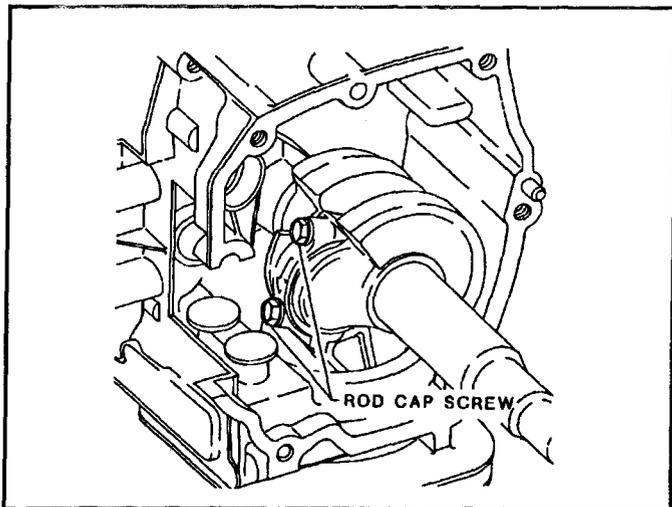

Figure 69
1. Remove the two 7/16" hex, cap screws retaining the rod cap. Note the orientation of the rod cap for proper reinstallation. See Figure 69.